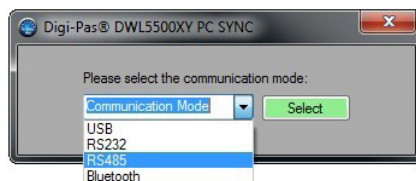

Figure 27. Select mode from the drop down menu
1. Assuming steps stated in 3.2 Configuration of Sensor Module(s) with Control Box and 4.1 Installation of the DWL5x00XY PC Sync Software have been done in this stage. Open PC SYNC software and select the desired mode from the drop down menu as shown in Figure 27. In this example, RS485 is selected.